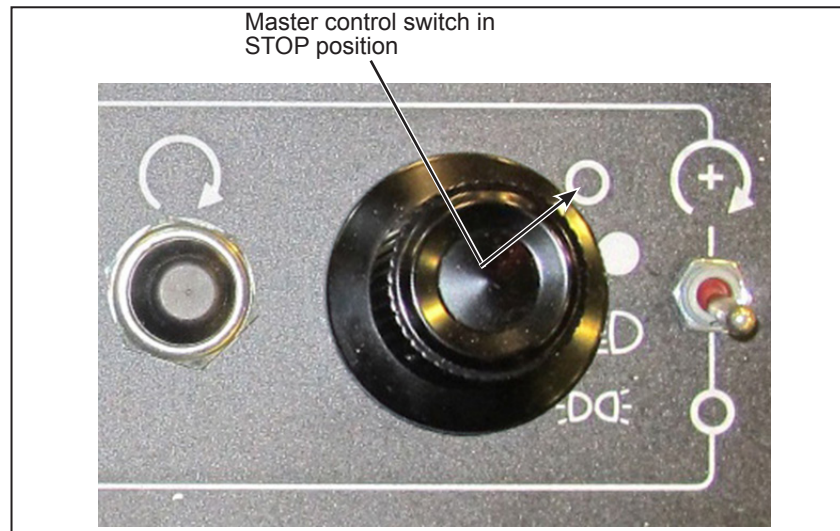

Figure 2 - Master Control Switch in STOP Position
- 1.7. Set the Master Control Switch in the STOP position (see figure 2).